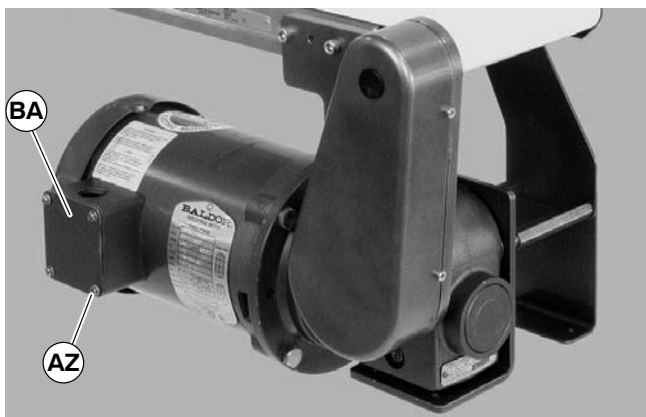

Figure 31
- a. Loosen terminal box screws (AZ of Figure 31) and remove cover (BA).